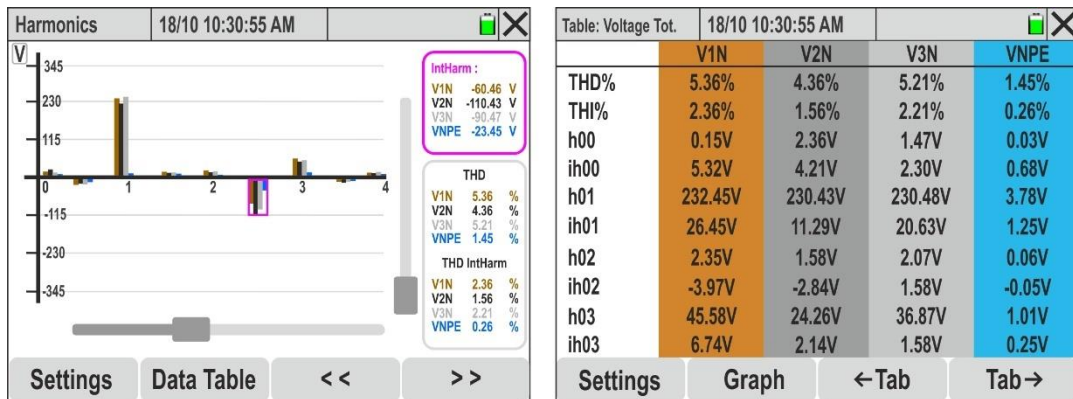

Fig. 55: Harmonic analysis of voltages in numerical format with graph
6. **When the 4 voltages are selected** the bar graphs of the individual voltages V1N, V2N, V3N and VNPE are shown in Fig. 55 - left part
- Touch the "Data Table" key to switch from the numeric display. The screen in Fig. 55 – right side is shown on the display. The parameters "hxx" indicate the amplitude of the harmonic xx, while the parameters "ihxx" indicate the amplitude of the interharmonic xx for each selected channel
16. Touch the "Data Table" key to switch from the numeric display. The screen in Fig. 55 – right side is shown on the display. The parameters "hxx" indicate the amplitude of the harmonic xx, while the parameters "ihxx" indicate the amplitude of the interharmonic xx for each selected channel